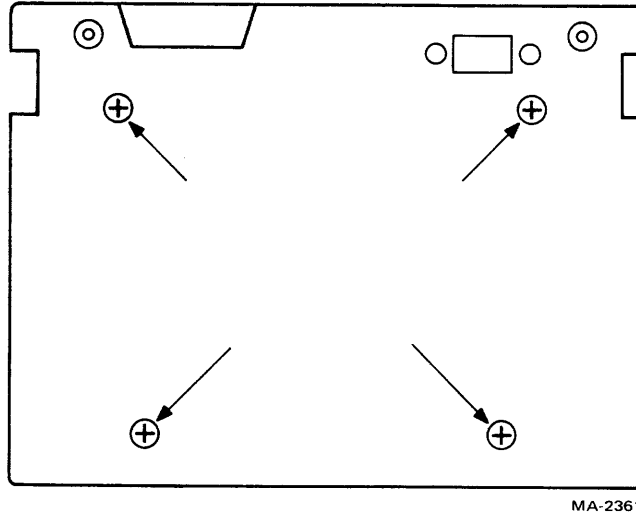

Figure 2-5 Cartridge Baseplate Screw Locations
1. Open the cartridge by removing the four baseplate Phillips head screws (Figure 2-5) and set it upright on the work surface with the cover still on.
Open the plastic-base cartridge case by removing the four baseplate Phillips head screws (Figure 2-5) and carefully remove the top.